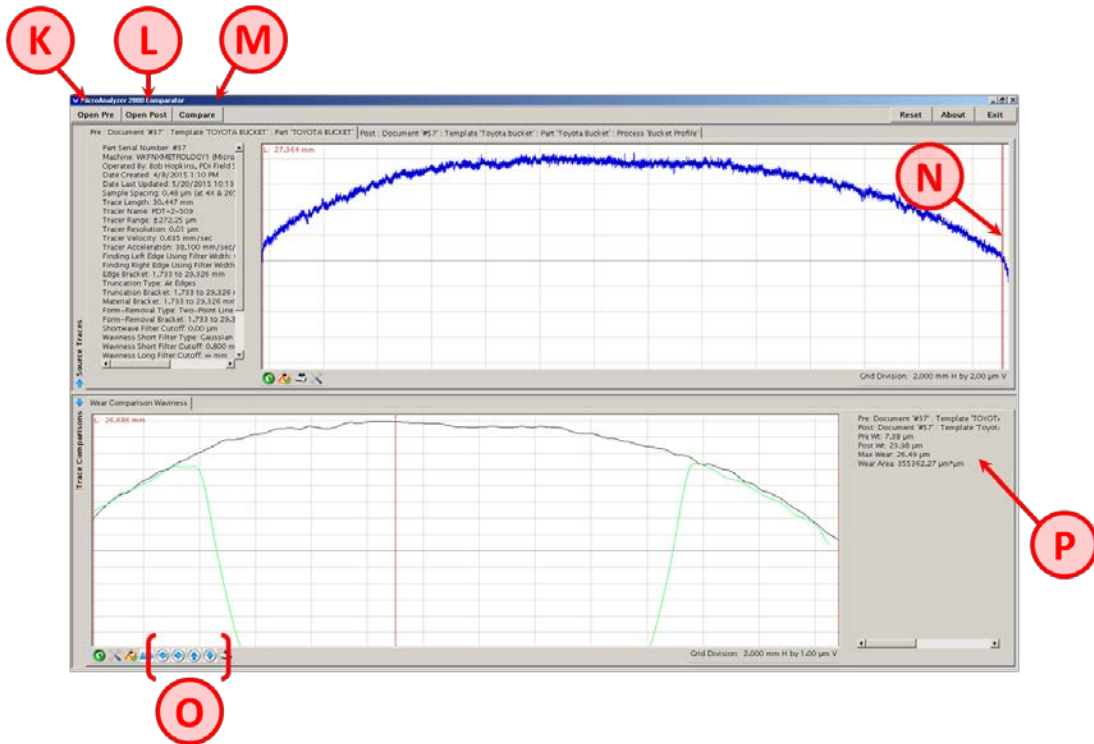

Figure 10 - Main Comparator Screen
- 7.9. Press the **(K) Open Pre** button on the main Comparator screen (Figure 10).
- 7.10. Press the **(L) Open Post** button on the main Comparator screen (Figure 10).
- 7.11. Use the **(N) vertical adjustment lines** and the **(O) adjustment arrow buttons** to level and align the pre-test and post-test traces (Figure 10).
- 7.12. Press the **(M)** Compare button on the main Comparator screen (Figure 10).
- 7.13. Record the required measurements **(P, Figure 10)**.